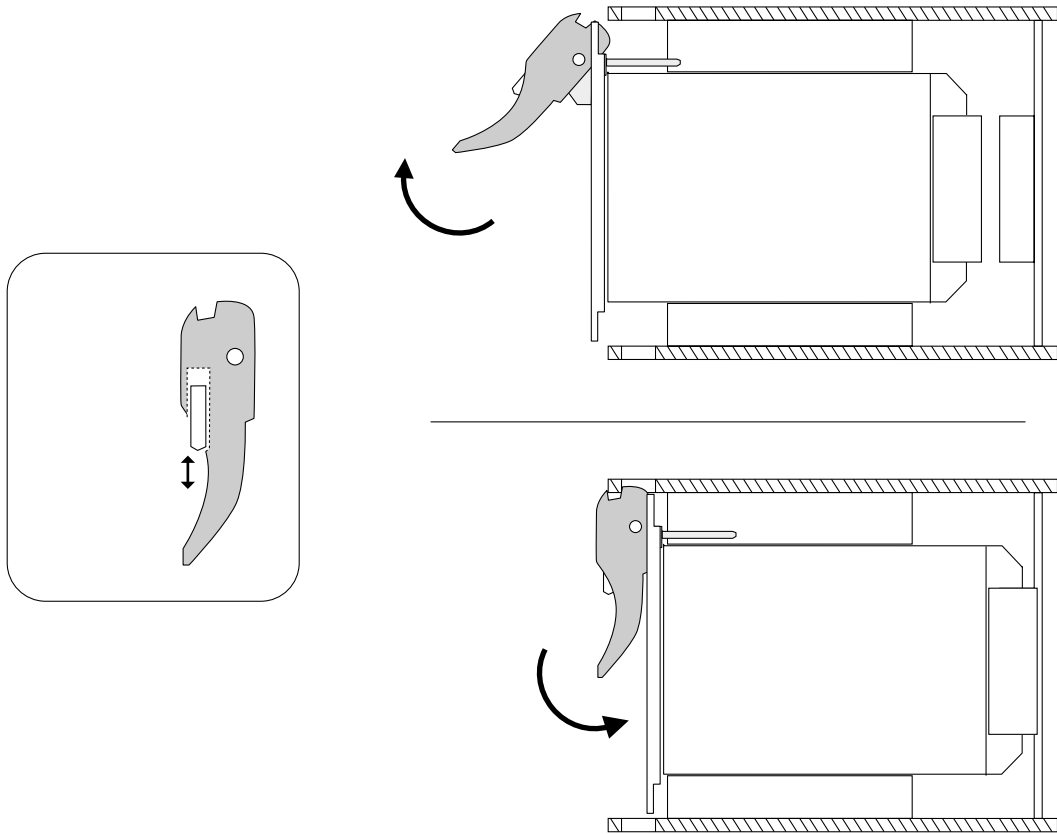

FIGURE 6-2 Injector/Ejector Operation (Power Supplies)
This levers the power supply away from the backplane (FIGURE 6-2).
3. **Prepare the power supply by opening the injector/ejector mechanisms (FIGURE 6-2).**
See FIGURE 6-2. The green LED on the power supply should come on when the power supply is fully inserted.